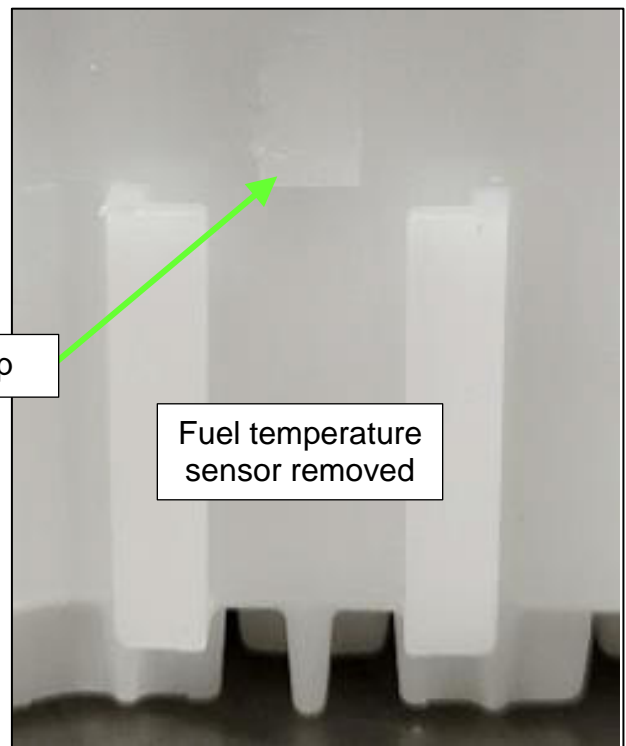

Figure 9
- Figure 9 shows the fuel temperature sensor removed from the fuel pump body.